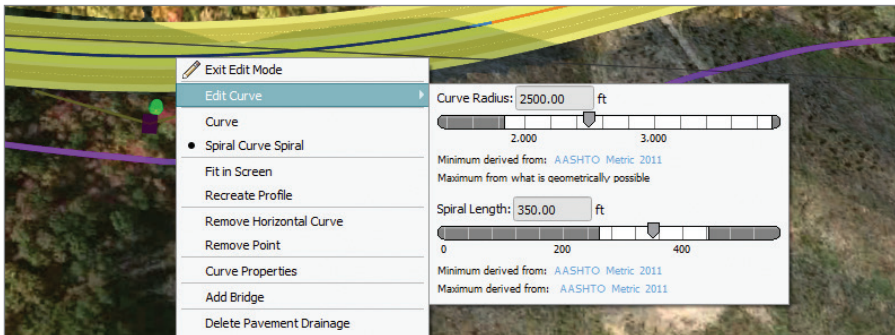

FIGURE 2.15 Setting the curve and spiral values
11. Set Curve Radius to 2500 (765) and Spiral Length to 350 (100), as shown in Figure 2.15. Click a point in the model to exit the editing command.